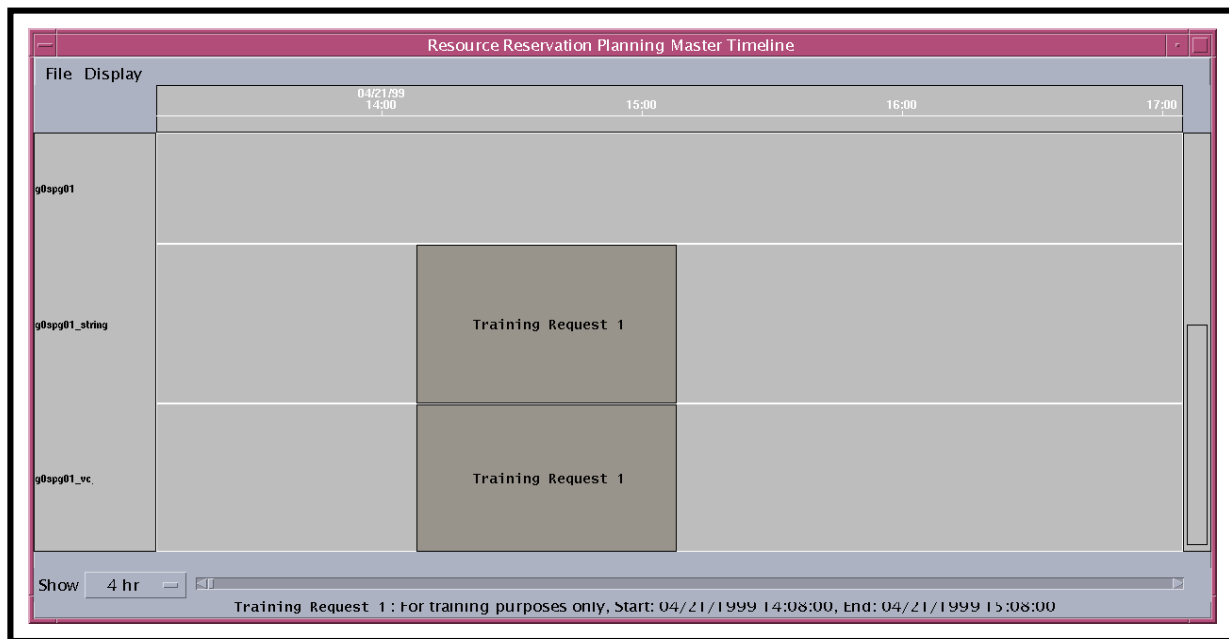

Figure 21. Resource Reservation Planning Master Timeline GUI
- The **Resource Reservation Planning Master Timeline** GUI (Figure 21) is displayed.